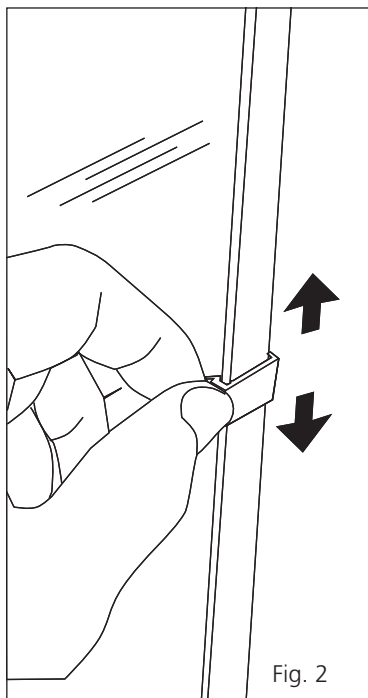
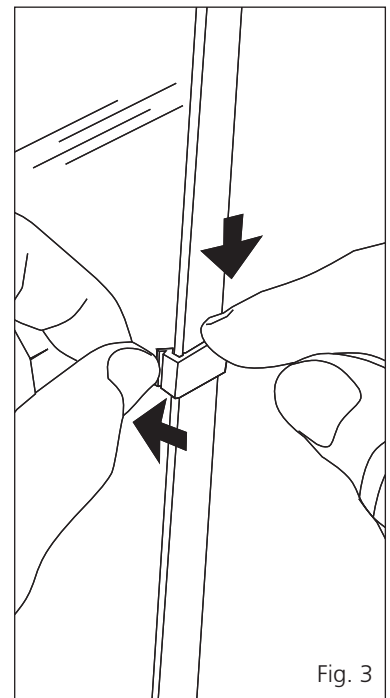

Fig. 2
Fig. 3
3. Remove clip by pressing down the small flange. Do not pry off. The clip will tilt and the back angle is exposed. See Fig. 2 Now rotate the clip to release from the narrow rail. See Fig. 3